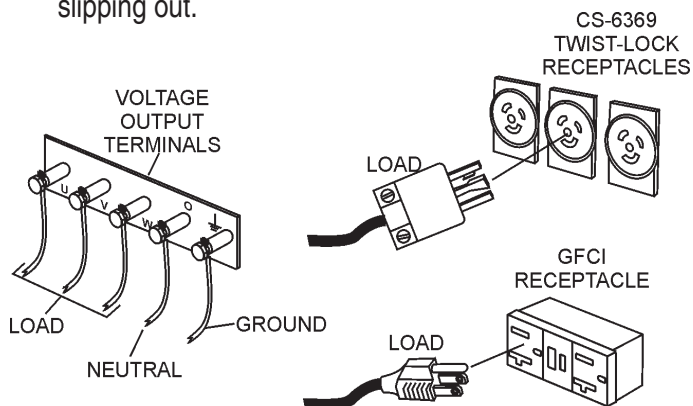

Figure 46. Load Connections
2. Connect the load to the **UVWO** terminals or **auxiliary receptacles** as shown in Figure 46. These load connection points can be found on the output terminal panel. To gain access to the UVWO terminals or other power receptacles, unlock the access cover and lift the door.